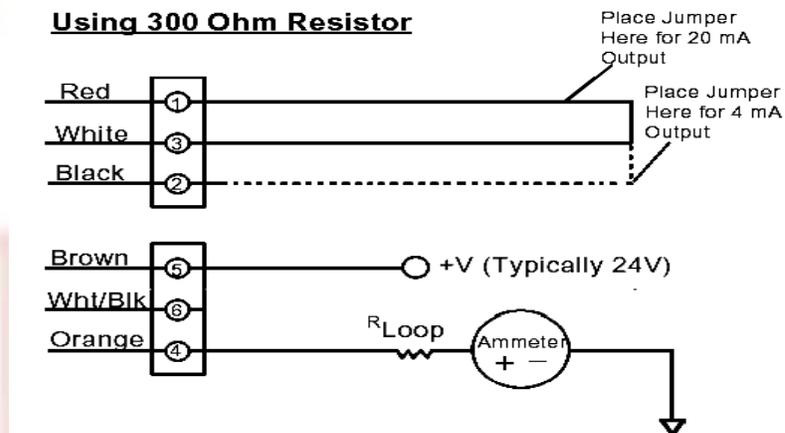

Figure: 2
- C. Wire as shown per (*Figure 2*), connecting a jumper wire in place of the black and white probe wires. Connect an ammeter in series to monitor loop current. Apply power to loop. Adjust null pot for 4mA.